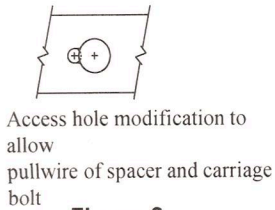

Figure 2
①	Qty. (1)	U-bolt 3/8-16"	⑦	Qty. (1)	Conical washer 1/2"
②	Qty. (2)	Flat washer 3/8"	⑧	Qty. (1)	Hex nut 1/2-13
③	Qty. (2)	Lock washer 3/8"	⑨	Qty. (2)	Carriage bolt 7/16-14 X 1-3/4" GR5
④	Qty. (2)	Hex nut 3/8-16	⑩	Qty. (2)	Spacer 1/4" X 1" X 3"
⑤	Qty. (1)	Bolts 1/2-13 X 1.75 GR5	⑪	Qty. (2)	Conical washer 7/16"
⑥	Qty. (1)	Spacer 1/4" X 1" X 1-1/2"	⑫	Qty. (2)	Hex nut 7/16-14
- Remove the (2) plastic rivets that fasten the fascia tabs to the trunk pan. Note: Remove the center of the rivet with a screwdriver and remove remaining piece. Rivets to be reinstalled. Carefully push fascia toward the impact bar and out of the way.
- Enlarge the forward access hole or drill 1" access hole in bottom of passenger side frame rail between the attachment holes for bolts and spacers. See enlarge method Figure 2. Paint any exposed metal